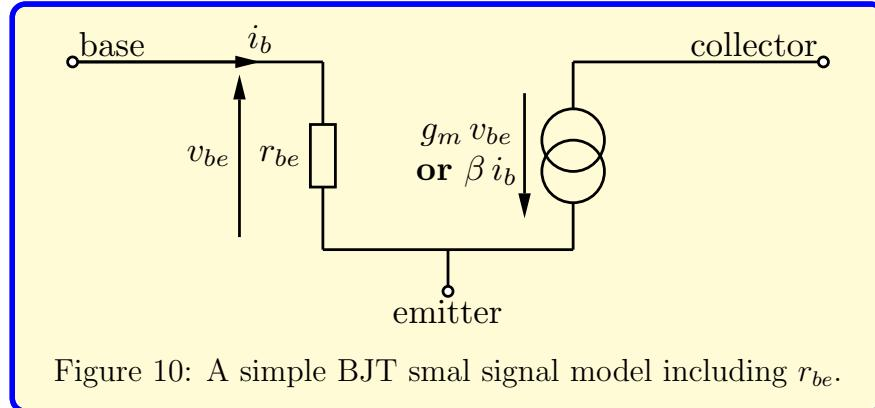

Figure 10: A simple BJT small signal model including r_{be} .
This is an interesting result because it says that the output current generator in the BJT model may be thought of as being controlled by the current through r_{be} or by the voltage across r_{be} . People get very worked up over the question “is a BJT a current or transconductance amplifier?” The answer really is that it doesn’t matter – use whichever is more convenient for any particular problem. The discussion of the BJT in transconductance terms is helpful because the transconductance viewpoint is common to all three terminal amplification devices. No other device can be looked at as a current amplifier. Including r_{be} in the model leads to Fig. 10.
- There are other elements one could add to this model to explain details of behaviour. One example is a resistor in parallel with the current generator to model the slope on the output characteristic. The simple model in Fig. 10 consisting of input resistance and output current source is reasonable for a wider range of applications and will be used for the rest of this course.